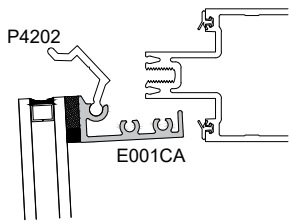
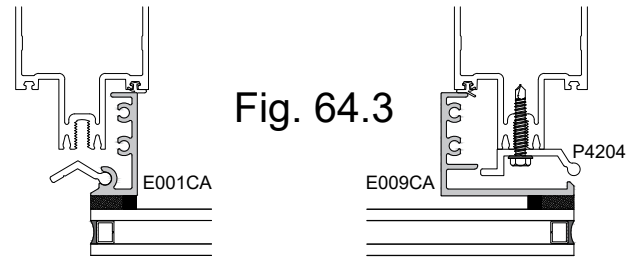

Fig. 64.1
Fig. 64.3
- STEP 1: Set sill of assembled cassette frame on anchor clips P4202 as shown at Fig. 64.1. Note location of jamb frame position shown at Fig. 64.3